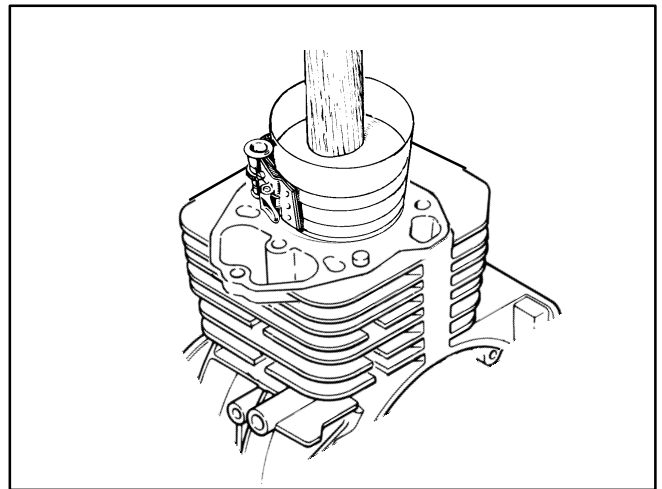

FIGURE 9-35. INSTALLING PISTON
2. Lubricate the piston assembly and inside of cylinder wall. Compress the rings with a ring compressor as shown in Figure 9-35.